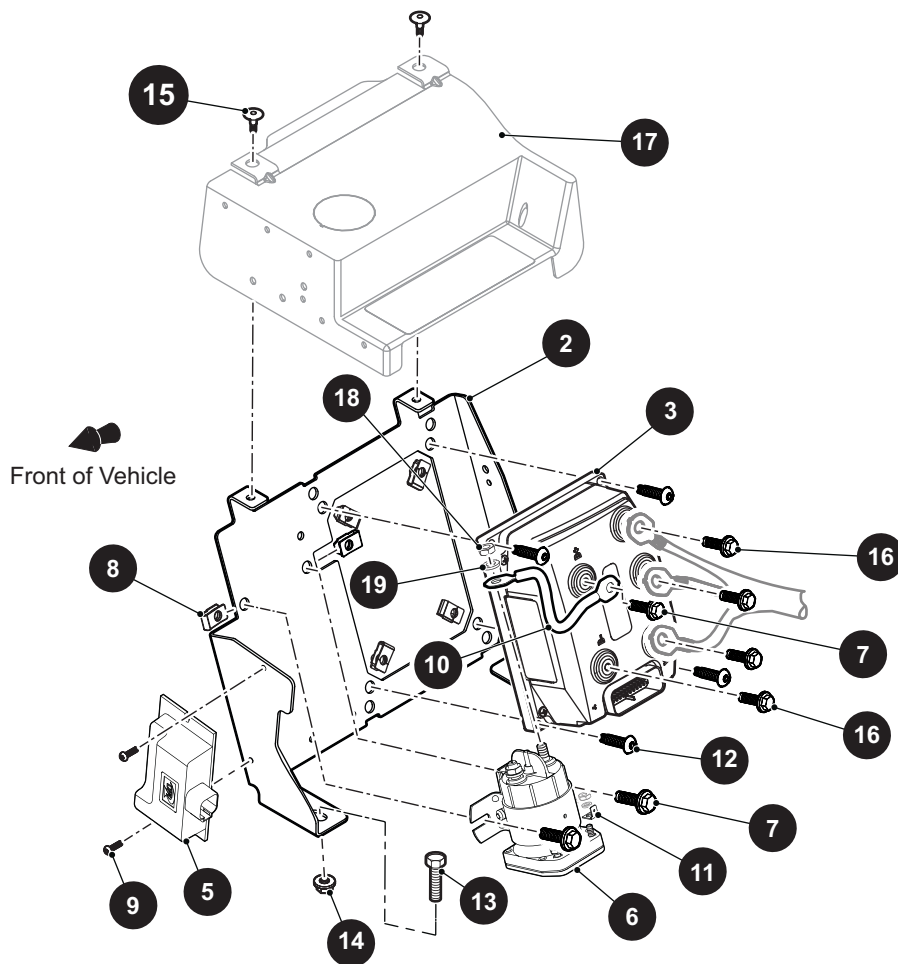

Figure 10 Controller
2. Remove the plastic rivets (15) securing the splash shield (17) to the controller bracket (2)
3. Disconnect the main harness from the controller (3) (Ref. Figure 10).
4. Remove the bolts (16) securing the wires from the battery and motor to the controller. Be sure to label the wires so they can be installed in the original location.
5. Remove the screws (12) securing the controller to the controller bracket.
6. If the bracket is to be replaced, remove the bolts (13) and lock nuts (14) securing it to the floor.
2. Remove the rivets (15) securing the splash shield (60) to the controller bracket and floorboard.
3. Remove the push on wires from tabs (11) on the solenoid
4. Remove the nuts (18) and lock washers (19) securing the battery cable to the solenoid (6) (Ref. Figure 10).
5. Remove the bolts (7) securing the solenoid to the controller bracket.
2. Disconnect the electrical connector (Ref. Figure 10).
3. Remove the screws (13) securing the DC to DC converter (30) to the bracket (35).
4. If the DC to DC converter bracket requires replacing, remove the bolts (14), washers (16), and lock nuts (17) securing it to the floor.